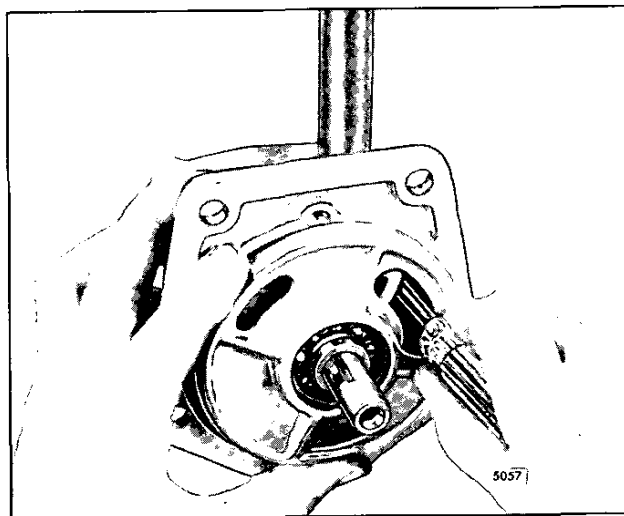

Fig. 4 – Removing Fork from Operating Shaft
4. Lift up on the weight shaft until there is enough clearance for a 5/16" socket wrench to be placed on the screws that hold the fork to the operating shaft (Fig. 4). Then remove the two screws and washers.